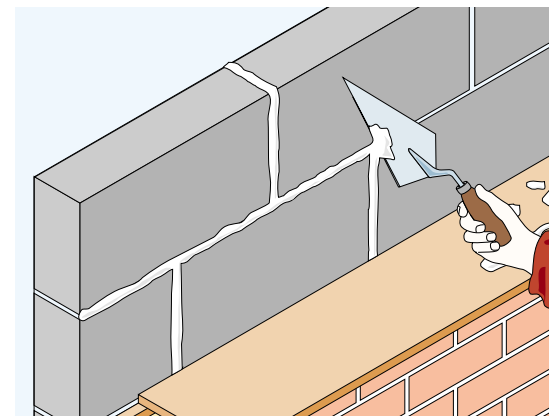

Figure 3 Use of cavity board
- 7 Do not allow mortar to drop into the cavity. After each section of the inner leaf is built, excess mortar should be removed from the cavity face and mortar droppings cleaned from exposed edges of the installed board, before installation of the next run of boards. Use of a cavity board is recommended to protect board edges and make cleaning easier. Also, a cavity batten will protect the installed boards and help to keep the cavity clean as the outer leaf is built up (see Figure 3).